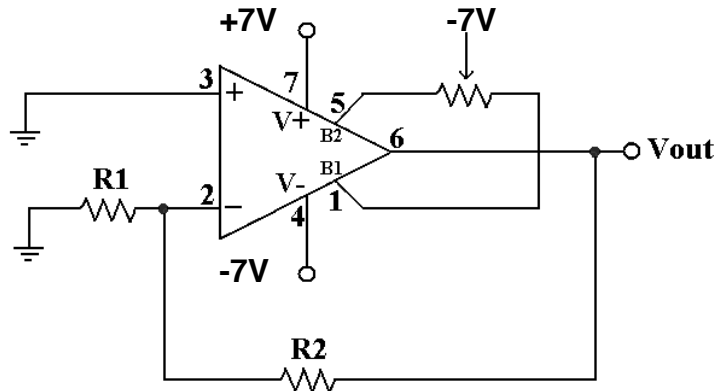

Fig. 6. Elimination of offset voltage
3. To minimize the offset voltage, turn off the power supply first and connect a 20 k $\Omega$  potentiometer (pot) to pins 1 and 5 as shown in Fig. 6. Be sure to connect the center tap of the pot to the  $-7$  V supply. Turn on the power supply and use the pot to zero the Opamp's output. This is how offset voltage is compensated.